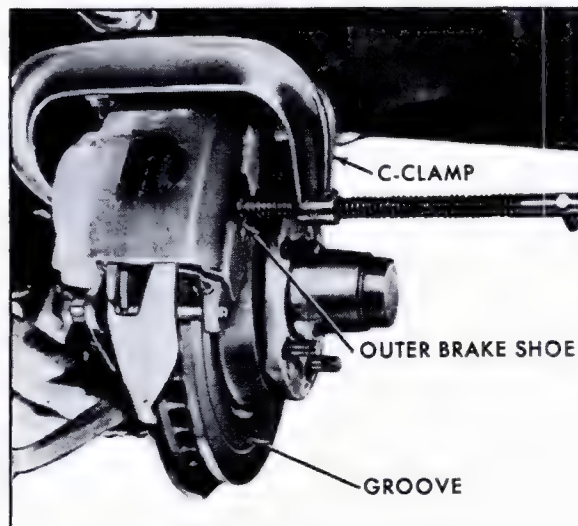

Fig. 5-10 Pushing Piston into Bore
3. Position 7 inch "C" clamp on the caliper so that solid side rests against back of caliper assembly. The screw end rests against back of outboard shoe, Fig. 5-10.
3. Position a "C" clamp on the caliper so that solid side rests against back of caliper assembly. The screw end rests against back of outboard shoe, Fig. 5-10.